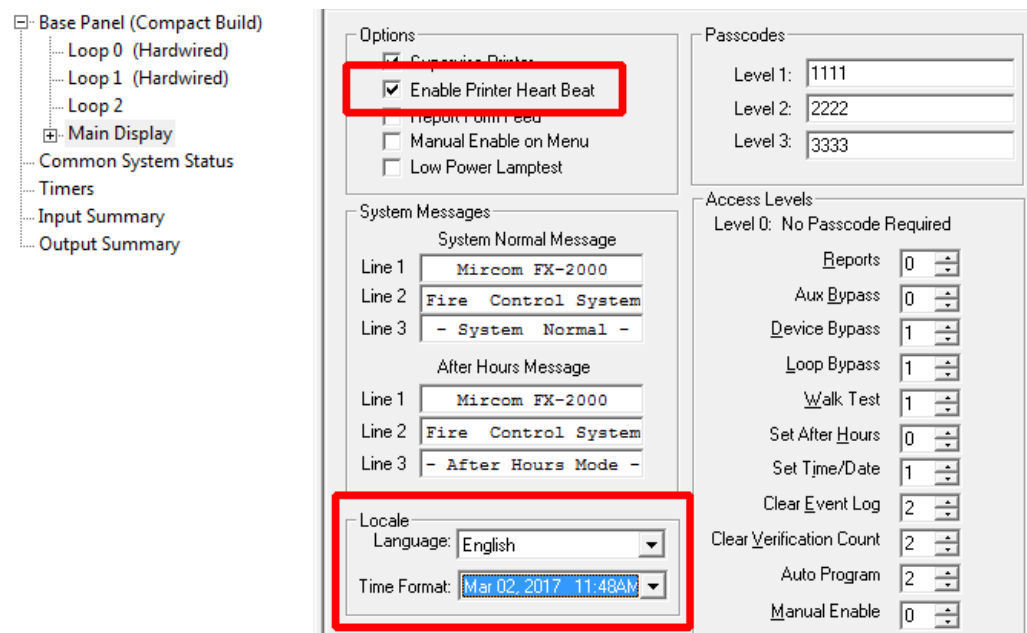

Figure 6 FX-2000 Config Utility
6. In the **Time Format** menu, select the date in the format **Month Day, Year hour:minute** as shown in Figure 6.